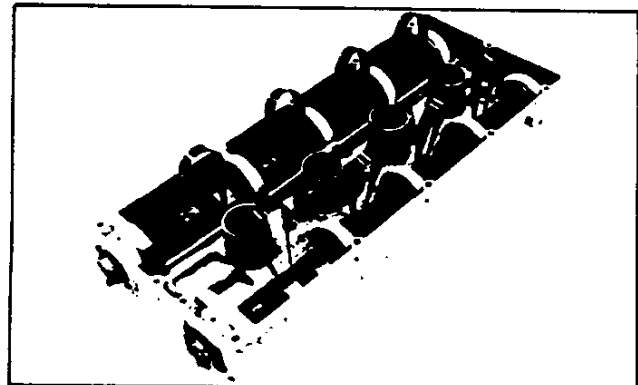

Fig. 16—Tappet Holding Tool J-24705
7. Install Tool J-24705 (one tool for each tappet) into the tappet hole and over the camshaft, as shown in figure 16.
7. Install tappet holding Tool J-24705 to each tappet so that each tappet is retained by holding tool (fig. 16).